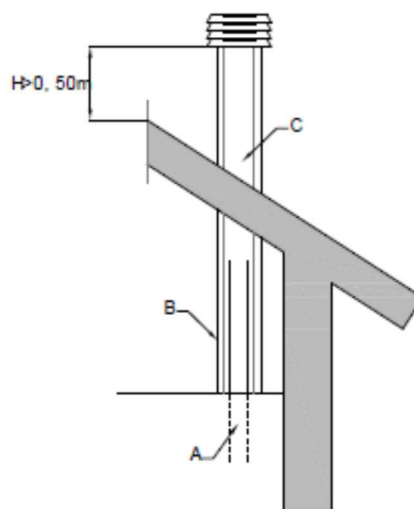

Figure 2.6: Example connection to the chimney
In case the exhaust pipes have larger diameter, a steel pipe (A) must be inserted in the brick or concrete chimney (C), as depicted in Figure 2.6.
① The steel pipe must be insulated by adequate material resistant to heat, such as stone wool or vermiculite (B), and it must be separated from the outer part of the chimney.